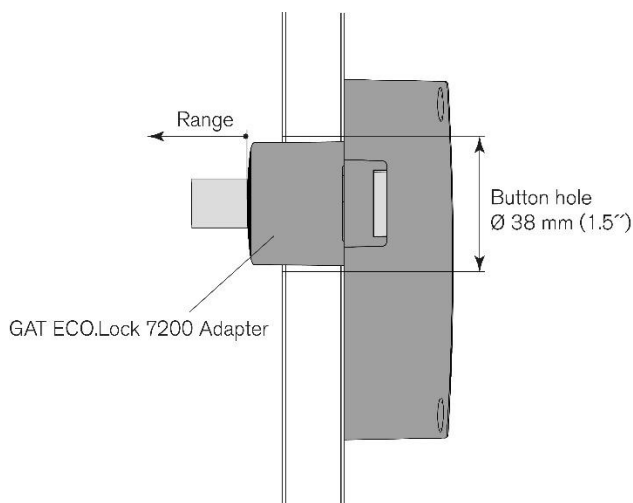

Figure 3.8 – Diameter of the button drill hole for metallic doors and mounting the GAT ECO.Lock 7200 Adapter
- ▶ Attach the GAT ECO.Lock 7200 Adapter as shown in figure 3.8.